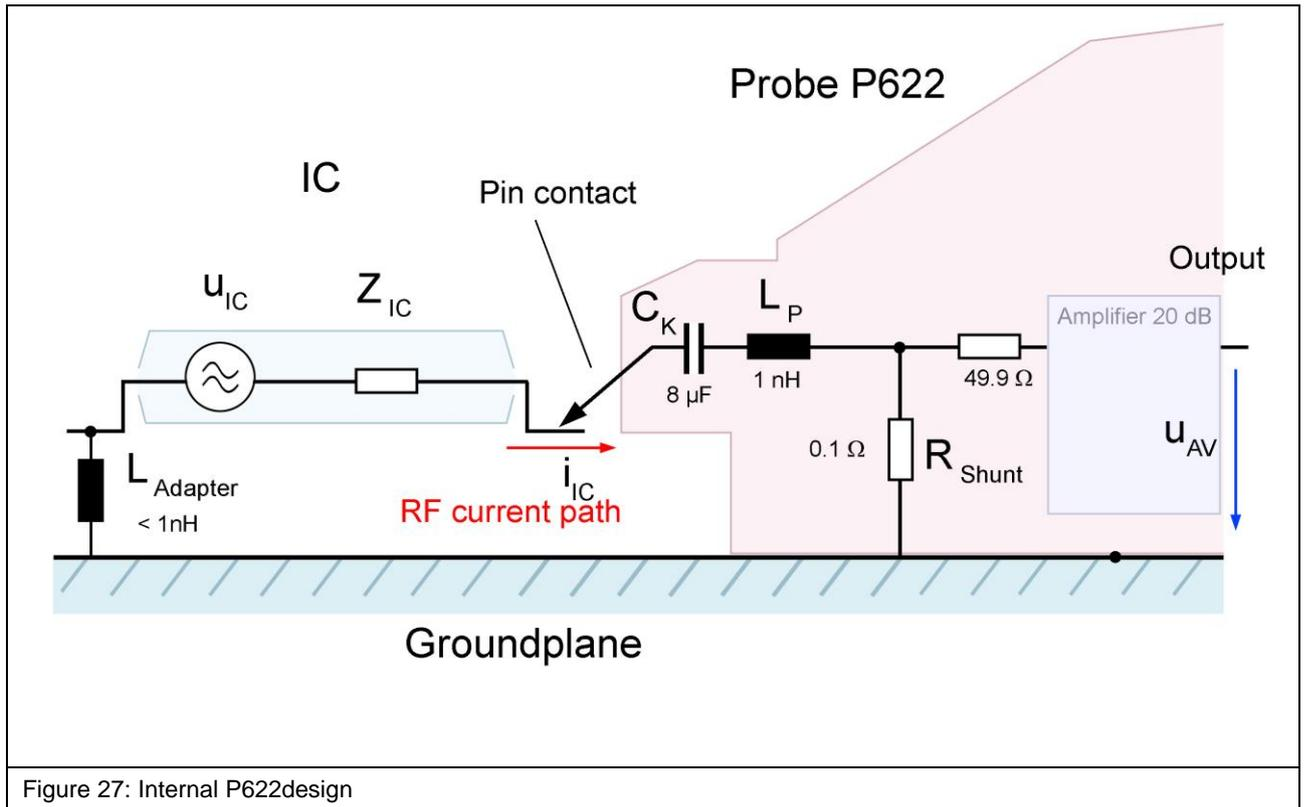

Figure 27: Internal P622design
**Figure 27** shows the equivalent circuit diagram of the **P622** probe. The current probe head comprises a 0.1 Ohm shunt, 49.9 Ohm matching resistor and 8  $\mu$ F coupling capacitor.